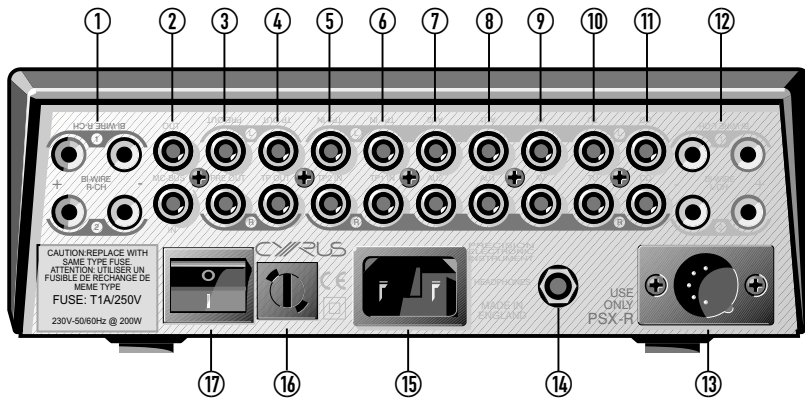

Fig 1
**POWER SUPPLY:** (Refer to Fig.1)
## INSTALLATION (Refer to Fig 1):
## MC-BUS System (Refer to figs 1 & 7)